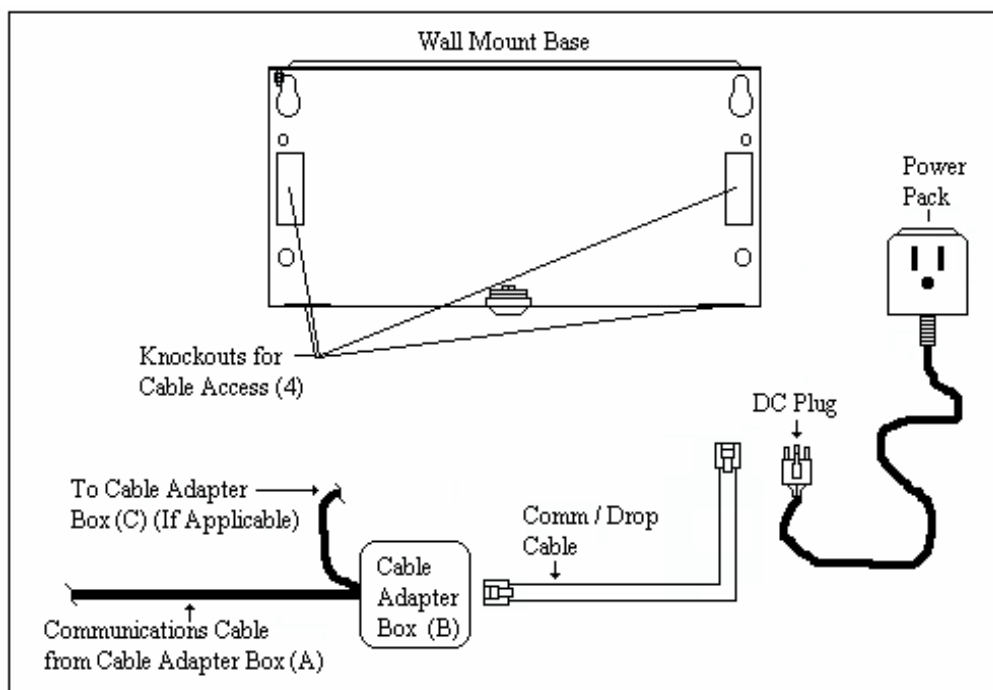

Figure 5
Locate a desired Cable Access knockout on the Mounting Base. Feed one end of the other Comm / Drop cable, DC Plug for the power pack, and any wires for the Relay (if applicable) through a knockout. Do not make any connections inside the Terminal yet. Plug the other end of the Comm / Drop cable into the modular jack on Cable Adapter Box (B) (Figure 5). Repeat this step for each additional Terminal and its Cable Adapter Box.